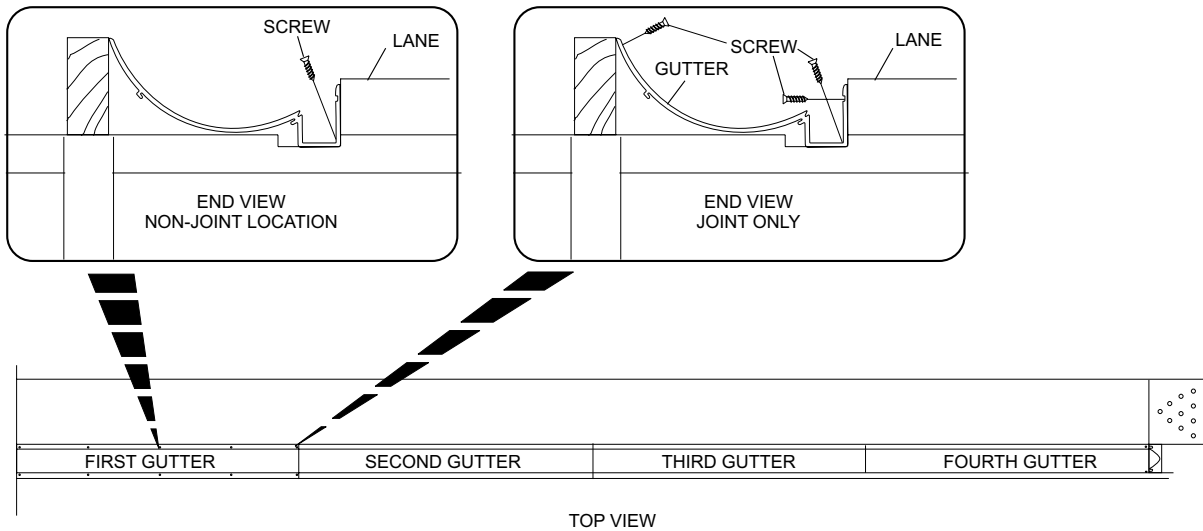

Figure 5
*It may be necessary to remove the ball return and division capping to allow the gutter to be removed. Refer to *Figure 5*.*
13. Reinstall the first gutter section sliding it onto the coupler plates. Secure the gutter to the foundation using the original screws. Refer to *Figure 5*.